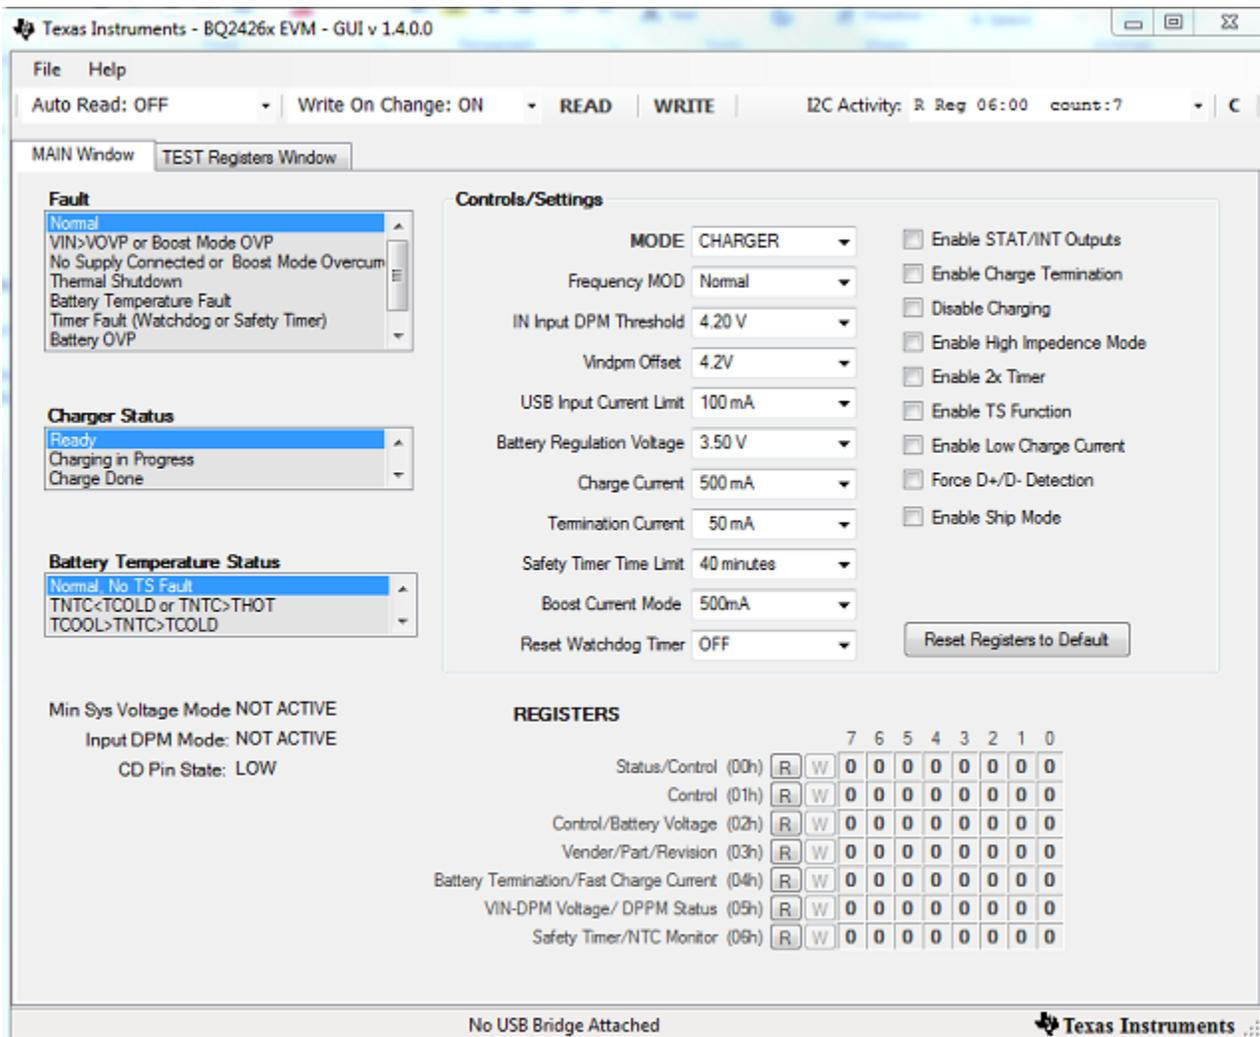

Figure 5. Main Window of bq2416xSW Evaluation Software
10. Turn on the computer. Open the bq2416x evaluation software. The main window of the software is shown in Figure 5.